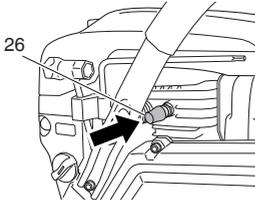

Fig. 25
- Push the decompression valve (26). The valve will automatically return to the original position once the engine has started. (Fig. 25)